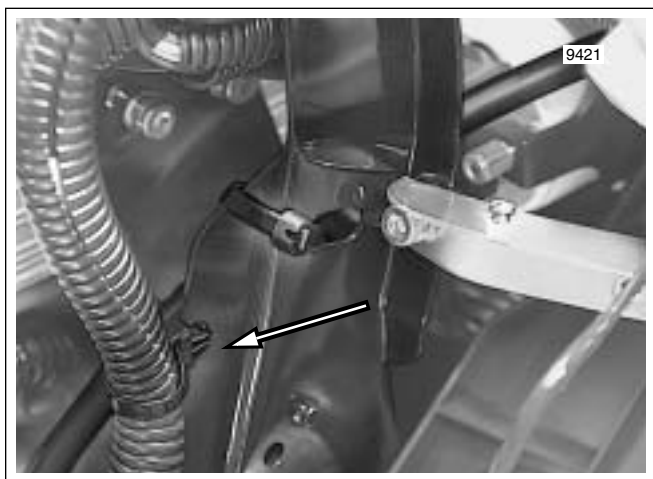

Figure 2. Remove Anchor on Tubing of Headlamp Connector From Fairing Bracket
4. Remove anchor on convoluted tubing of headlamp connector from hole in left fairing bracket. See Figure 2.
12. Install anchor on convoluted tubing of headlamp connector into hole in left fairing bracket. See Figure 2.